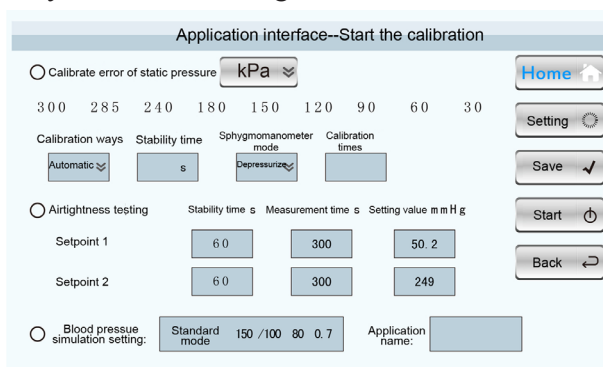

Figure 12
- That can store eighteen groups applications. There are nine application icons in each interface. Click **【Next】** and enter the next interface. That you select any icon is ok. See Figure 12 below: